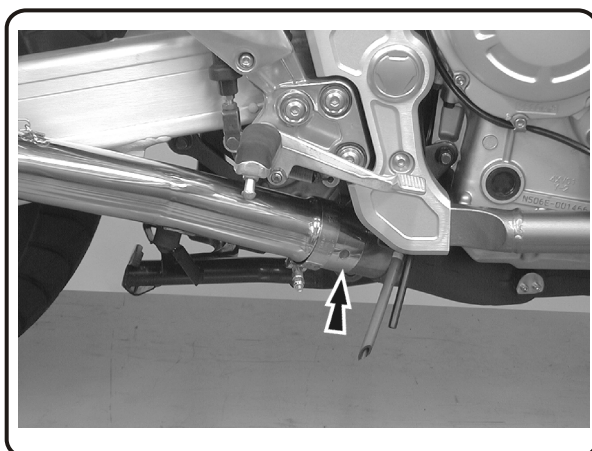

Fig. 2
4. Mount clamp to outside of stock muffler bracket using stock bolt, washer and supplied nut. (See Fig. 2) Hand tighten bolt only at this point.
8. Drill 13/64" hole thru end of header at the center of the securing hole in Yoshimura tailpipe. (See Fig.2) (Caution: Always wear eye protection when using any power tool.)